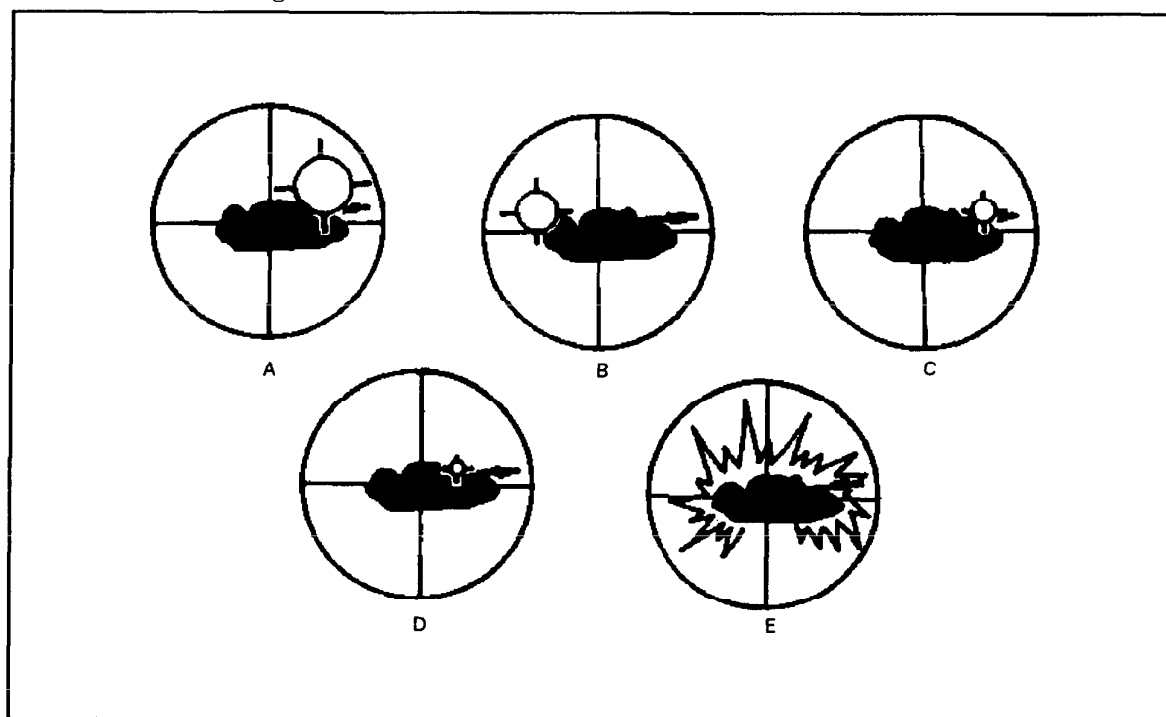

**Figure 6-11. Cross hairs on the center of visible mass of the target.**
b. Raise the trigger protective cover and establish a smooth tracking rate while keeping the cross hairs on the center of visible mass of the target (Figure 6-11).